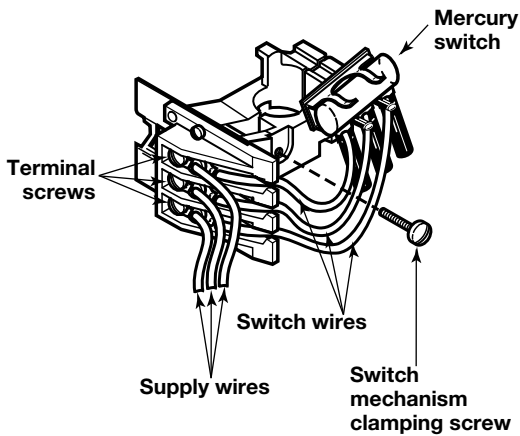

Figure 22
- Switch mechanism wires move as the switch pivots; control wires must not touch or interfere with mechanism wires. Refer to Figures 22 and 23.